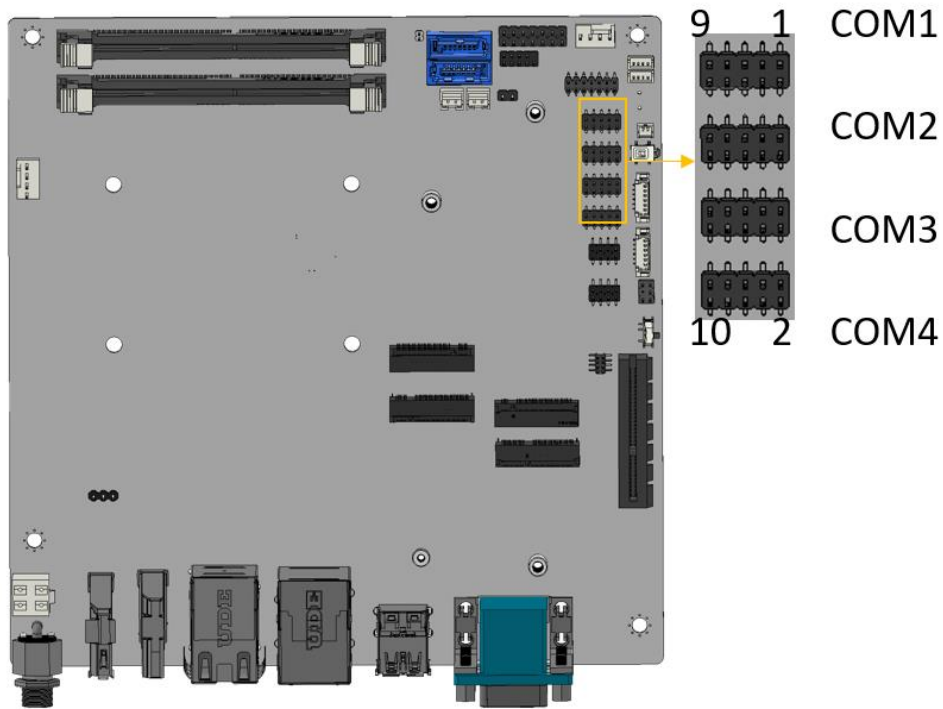

Figure 3-13: RS-232 Serial Port Connector Location
- CN Location:** See Figure 3-13